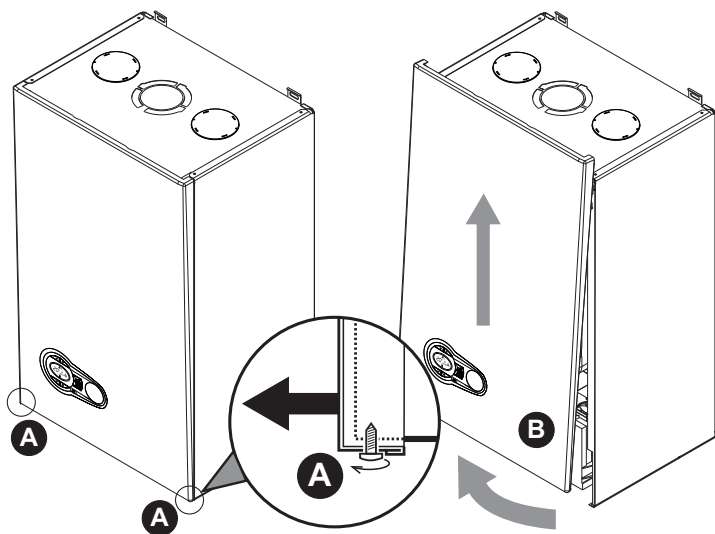

fig. 25 - Front panel opening
1. Partially undo the screws **A** (see fig. 25).